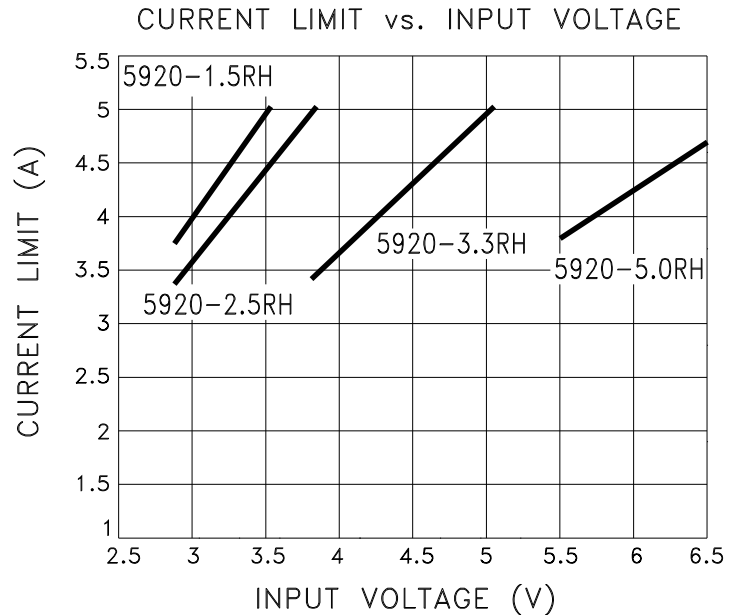

FIGURE 1
- ⑦ Output current limit is dependent upon the values of VIN and VOUT. See Figure 1 and typical performance curves.
- ⑧ Continuous operation at or above absolute maximum ratings may adversely effect the device performance and/or life cycle.
- ⑨ VIN shall be as specified or VIN min., whichever is greater.
- ⑩ Not applicable to versions where VIN = VIN Min.
- ⑪ Pre and post irradiation limits at 25°C, up to 100Krad TID, are identical unless otherwise specified.
- ⑫ Reference DSCC SMD 5962R05220 for electrical specifications for devices purchased as such.
The MSK 5920RH current limit function is directly affected by the input and output voltages. Figure 1 illustrates the relationship between VIN and ICL for various output voltages. It is very important for the user to consult the SOA curve when using input voltages which result in current limit conditions beyond 4.5 Amps. When using input voltages which result in current limit above 4.5 Amps, the user must maintain output current within the SOA curve to avoid damage to the device. Note that 5 Amp maximum is due to current carrying capability of the internal wirebonds.